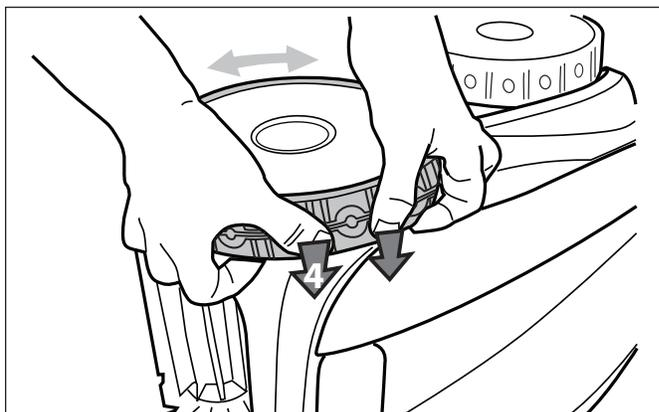

Figure 40. Push the Tire into Place on the Wheel
- Push and position the rib of the inner side of the tire in the groove of the wheel. Refer to Figure 40. If needed, turn the wheel gently to help with installation.